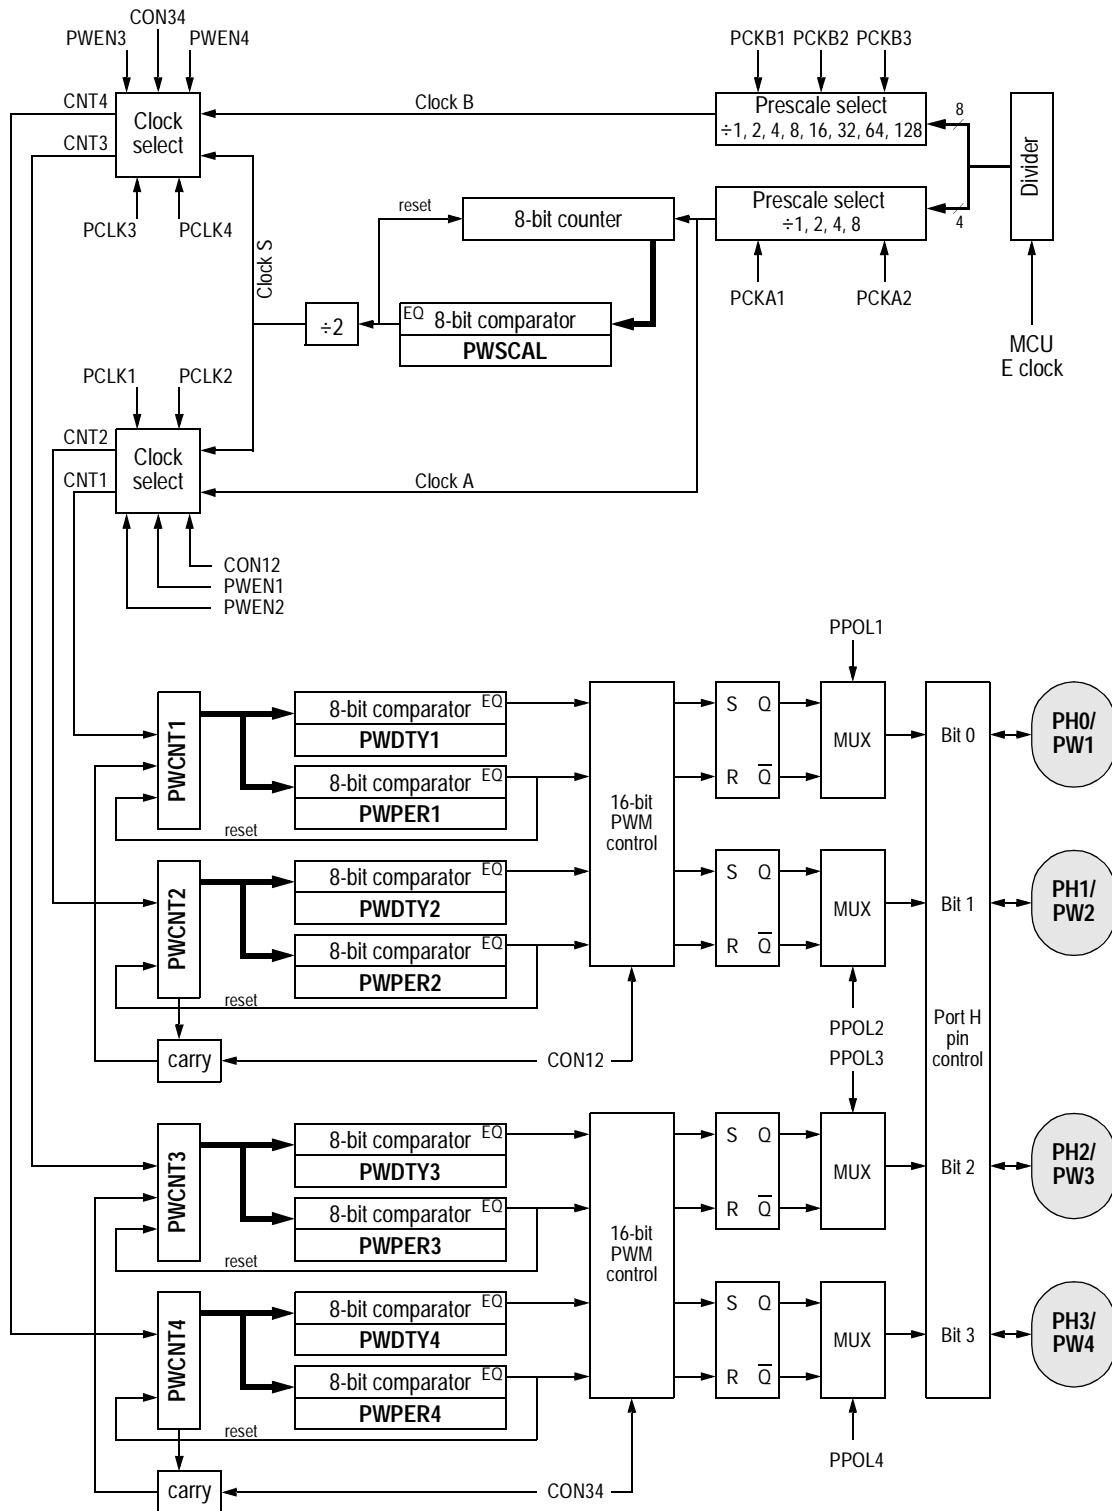

Figure 8-4. PWM timer block diagram
**Figure 8-4** shows the block diagram of the PWM timer subsystem. Three different clock sources are selectable and provide inputs to the control registers. Each of the four channels has a counter, a period register, and a duty register. The waveform output is the result of a match between the period register (PWPERx) and the value in the counter (PWCNTx). The duty register (PWDTYx) changes the state of the output during the period to determine the duty cycle.
Each PWM timer channel can be driven by one of two clocks. Refer to Figure 8-4.
Each channel has a polarity bit that allows a cycle to start with either a high or a low level. This is shown on the block diagram, Figure 8-4, as a selection of either the Q output or the  $\overline{Q}$  output of the PWM output flip flop. When one of the bits in the PWPOL register is set, the associated PWM channel output is high at the beginning of the clock cycle, then goes low when the duty count is reached.